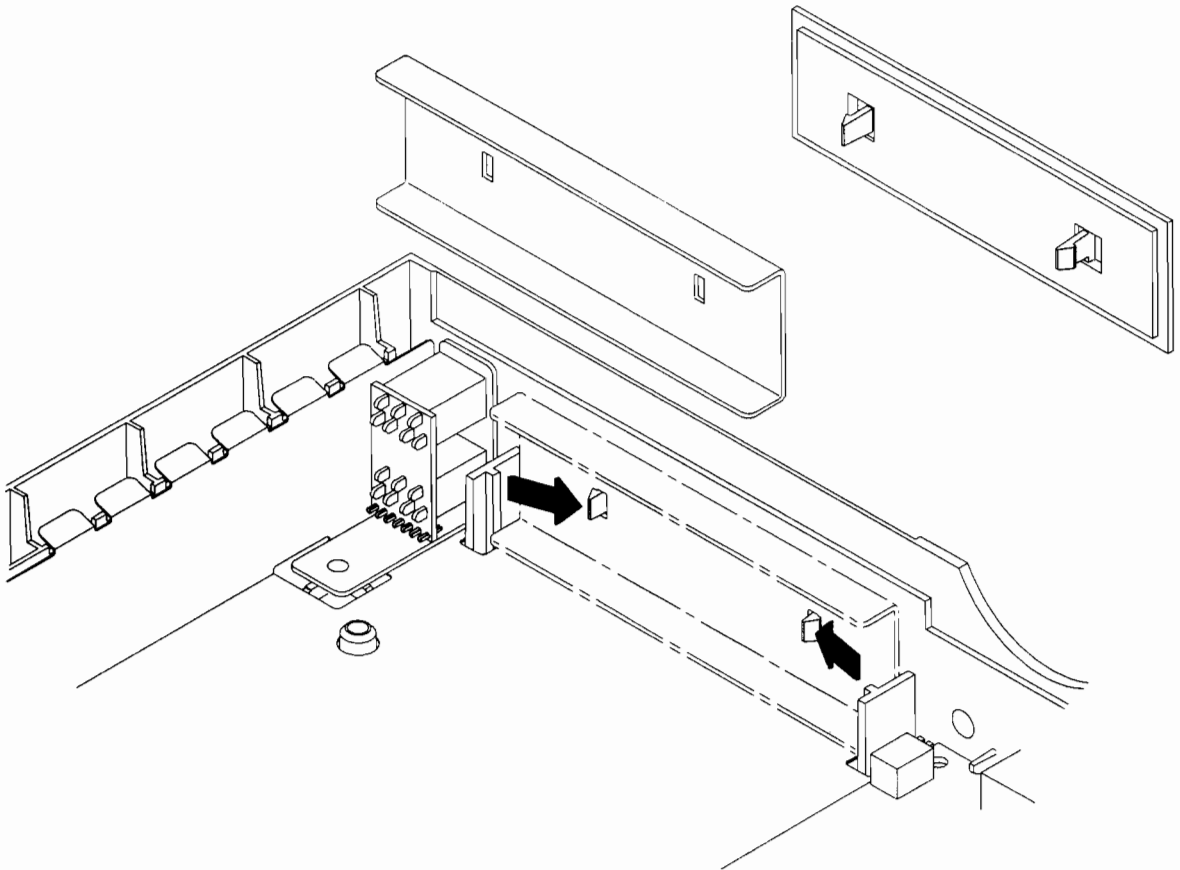

Figure B-13. Removing the EISA Filler Panel Assembly
4. Remove the EISA filler panel assembly as shown in Figure B-13.